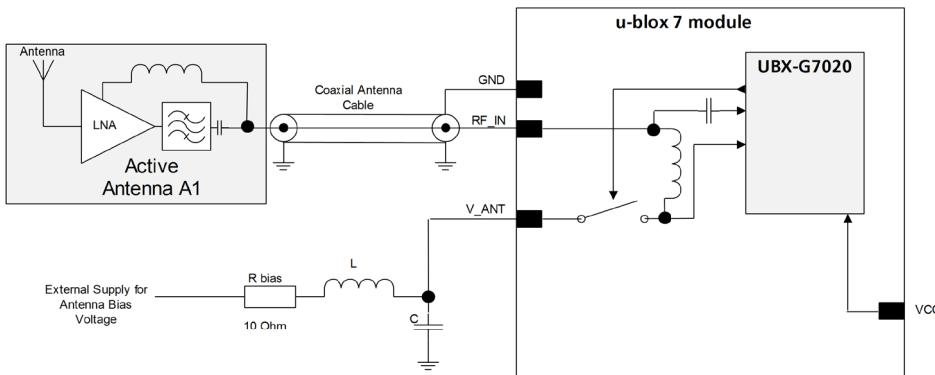

Figure 23: Module design with active antenna, external supply
- ☞ If the **VCC_RF** voltage does not match the antenna supply voltage, use a filtered external supply as shown in Figure 23.
Figure 23 shows an externally powered active antenna design.